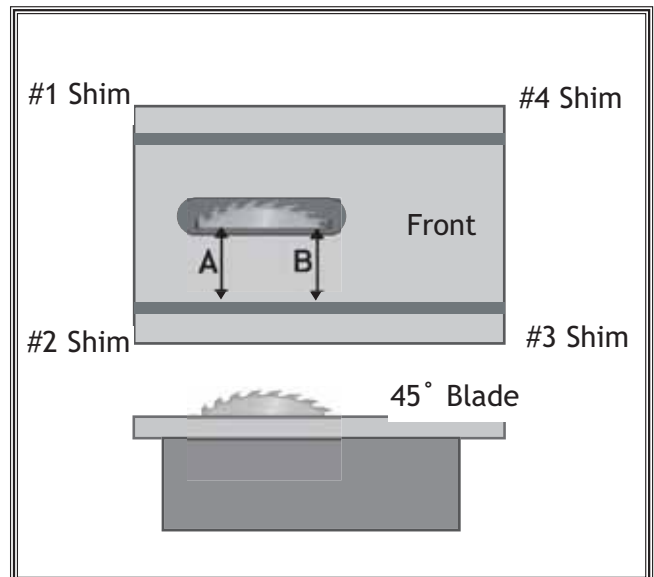

Figure 44. Shimming positions.
1. Use Figure 44 to shim the trunnion according to the measurements taken in step 6 with the blade at 45°. Make sure you place the shim(s) between the table and trunnion.